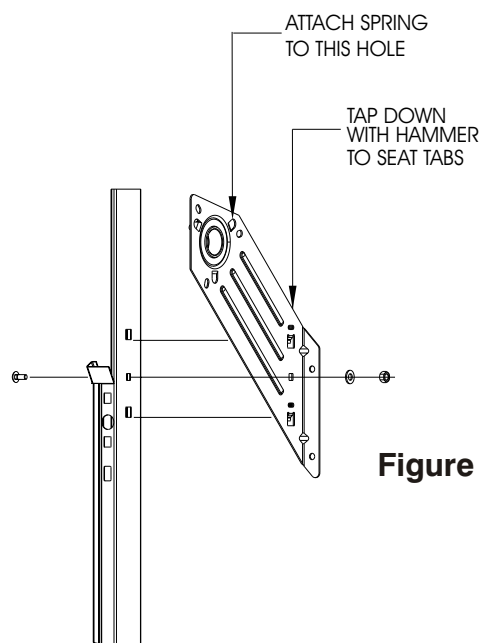

Figure 1
Insert tabs on headplates into corresponding holes on the guides. Seat the tabs with a hammer and secure headplates to guides with 5/16" x 5/8" carriage bolts. See Figure 1.
5. Rotate the curtain to align the ear of the spring with the spring bolt hole indicated in Figure 1. Stretch the spring and bolt to the headplate.